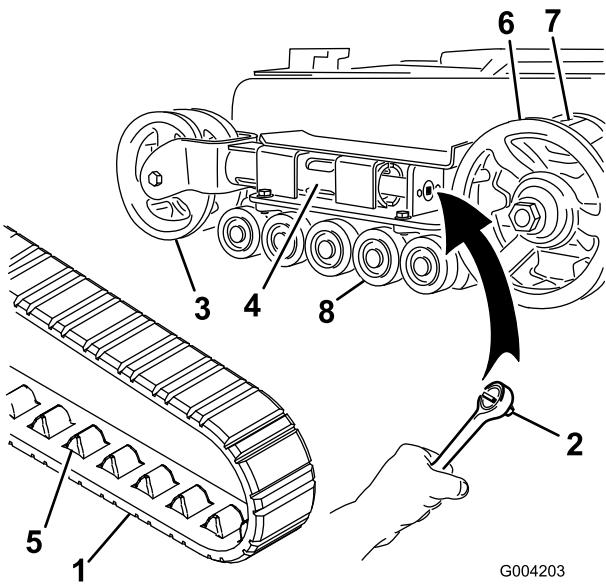

Figure 42
4. Using a 1/2 inch drive socket wrench (Figure 42), turn the tensioning screw counter-clockwise until the distance between the tension nut and the back of the tension tube (Figure 40) is 2-3/4 inches (7 cm).
4. Using a 1/2 inch drive socket wrench, release the drive tension by turning the tensioning screw clockwise (Figure 41 and Figure 42).
5. Push the tension wheel toward the rear of the unit to move the tension tube against the frame (Figure 42). (If it does not touch the frame, continue turning the tensioning screw until it does.)
7. When the track is off of the tension wheel, remove it from the drive sprocket and road wheels (Figure 42).
8. Beginning at the drive sprocket, coil the new track around the sprocket, ensuring that the lugs on the track fit between the cogs on the sprocket (Figure 42).
9. Push the track under and between the road wheels (Figure 42).